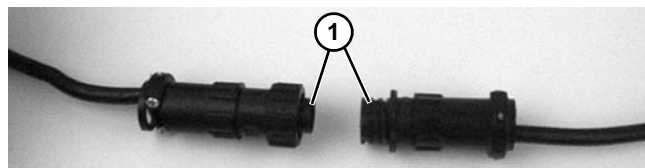

Figure 19
1. For DC variable speed motor, unplug motor cord at disconnect (Figure 19, item 1).